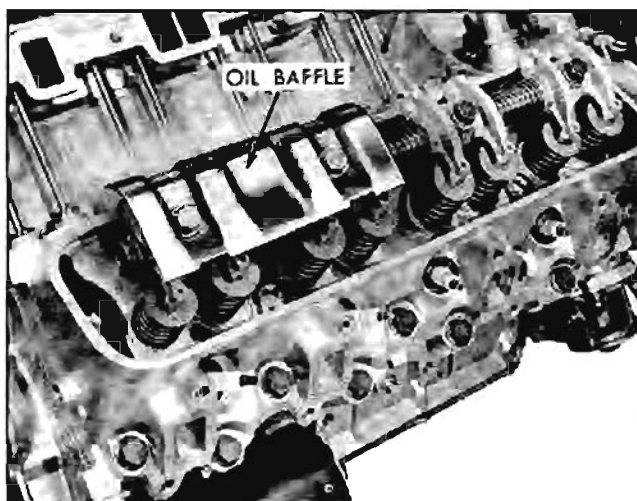

Fig. 6-80 Oil Baffle
3. Remove rocker arm and shaft assembly. Remove vent pipe oil baffle from right rear rocker arm and shaft assembly (Fig. 6-80).